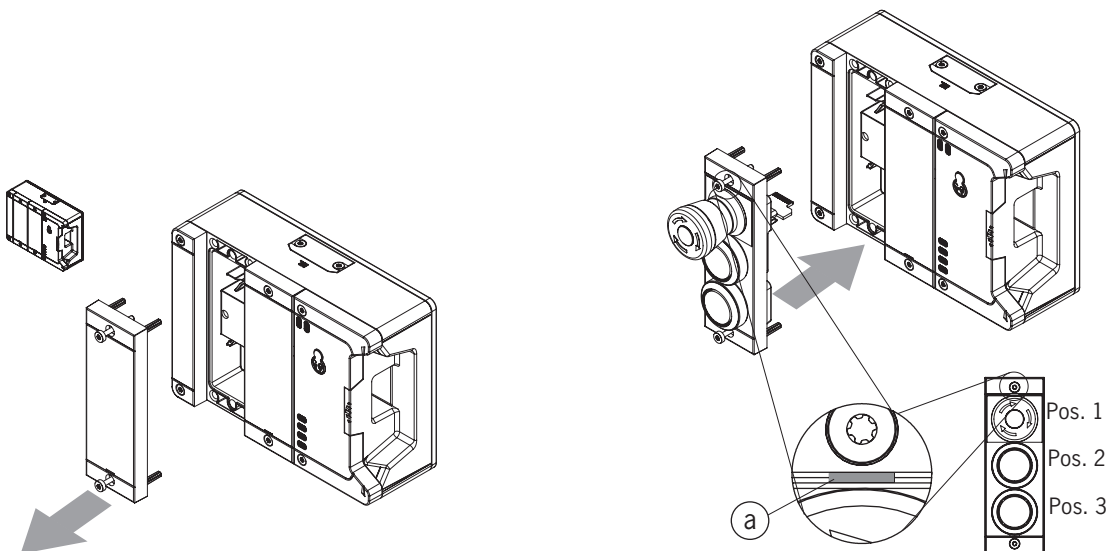

Figure 9: Mounting submodule
- › Pay attention to the alignment of the submodule. See marking (a) in *Figure 9: Mounting submodule*. Submodules can also be installed rotated by 180°. The marking (a) always indicates the first position to be equipped. This is the emergency stop S1 position in the example below.